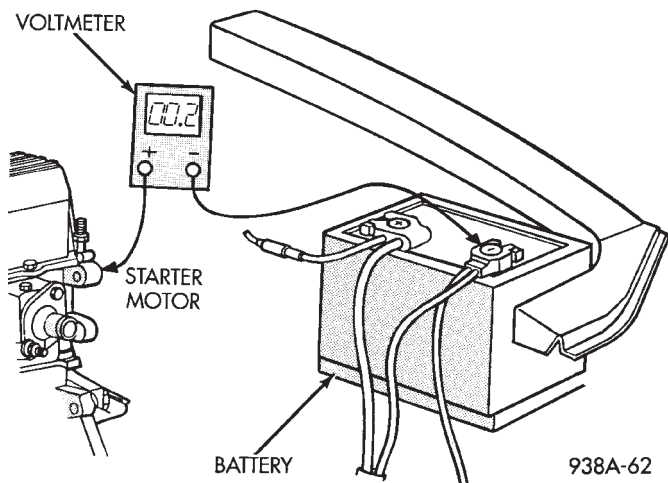

**Fig. 11 Test Starter Motor Ground**
(3) Connect positive voltmeter lead to the starter motor housing and the negative lead to the negative battery terminal (Fig. 11). Hold the ignition switch